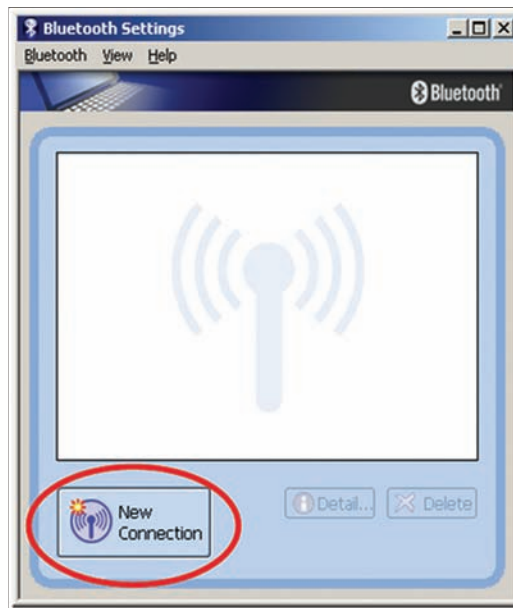
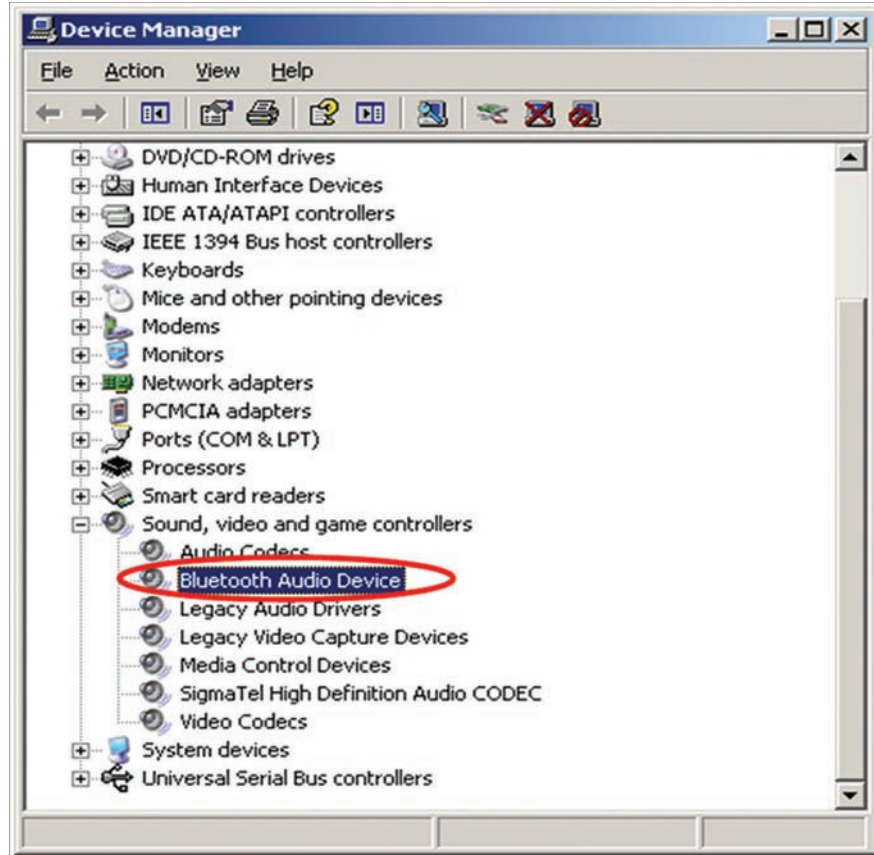

Figure 3.6: A2DP example 1 – PC Bluetooth settings
Figure 3.11: A2DP example 1: New Bluetooth Audio Device in the Device Manager
The BTM5xx device is assumed to be connected to a terminal program e.g. Ezurio Terminal on a PC. The sequence of AT commands and the instructions for the PC side are listed in Table 3.13. Figure 3.6 through to Figure 3.11 show appropriate screenshots.
2.) Click on "New Connection" - Figure 3.6